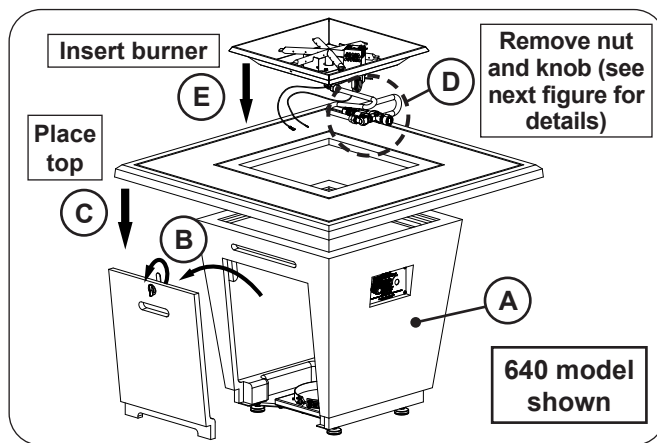
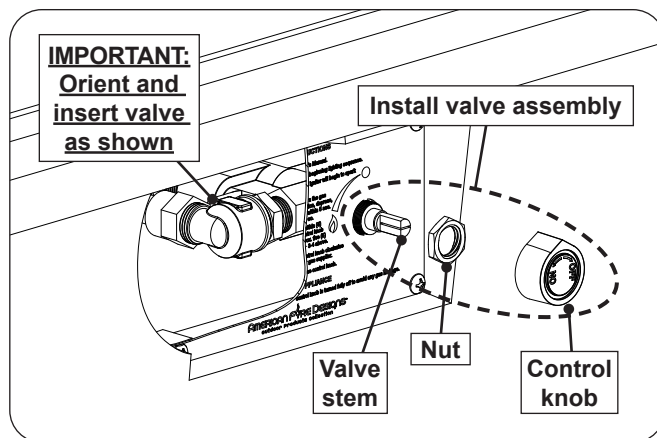

Fig. 35-1 Place base, remove door, place top and burner
Fig. 35-2 Install valve assembly
1. **Carefully** remove the valve and burner assembly from the base, then **carefully** place the base in an appropriate location (see Fig. 35-1, A, and refer back to the LOCATION section if needed).
3. **Carefully** place the top on the unit (see Fig. 35-1, C).
4. Locate the valve and burner assembly. Remove the control knob. Use a 20mm socket to remove the nut attached to the valve stem. See Fig. 35-1, D, and reference Fig. 35-2 for details.
Then drop the valve and burner assembly into the opening in the center of the firetable top, with the two burner pan holes facing toward the door (see Fig. 35-1, E).
5. Insert the valve assembly through the plate (in the base). Replace the nut onto the valve stem, and tighten. Reinstall the control knob. See Fig. 35-2.
Important: Handle with care to prevent damage to the thermocouple, electrical, and gas connections (as applicable). Ensure the valve is oriented and inserted in the manner shown. See Fig. 35-2.